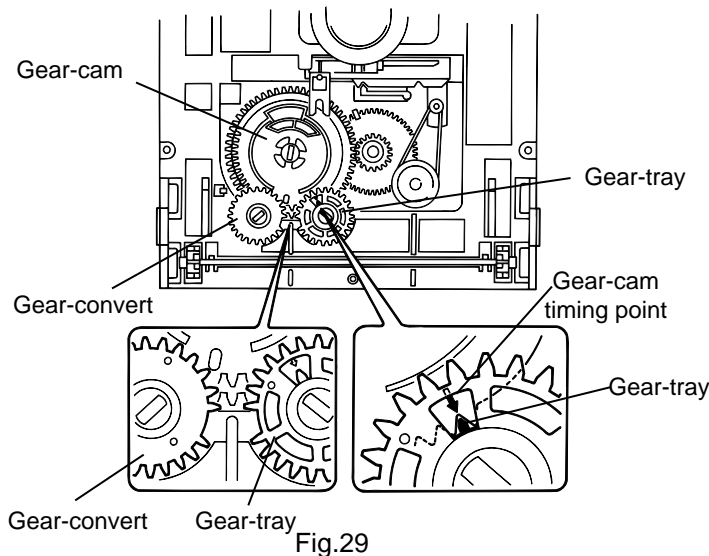

Fig.29
■ Reinstall the CD tray (See Fig.29 to 30)
1. Align the gear-cam with the gear-tray as shown fig.29, then mount the CD tray.